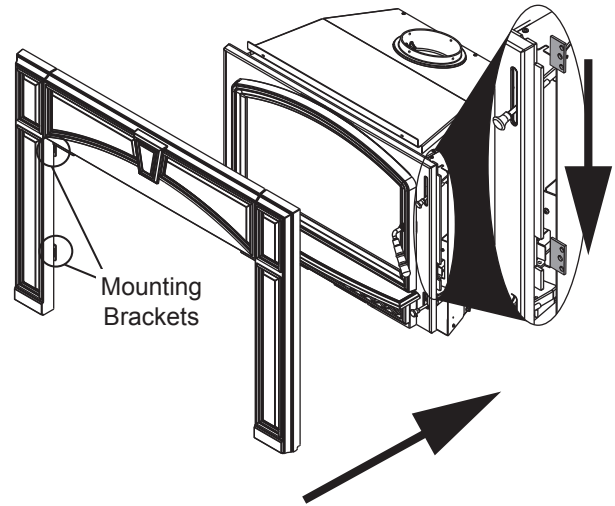

Figure 22.2
5. Slide cast trim assembly over the top of the appliance and set in position by guiding the right and left cast side bracket through the slots on the side of the appliance. Gently drop the assembly down into place. (**Figure 22.2**).